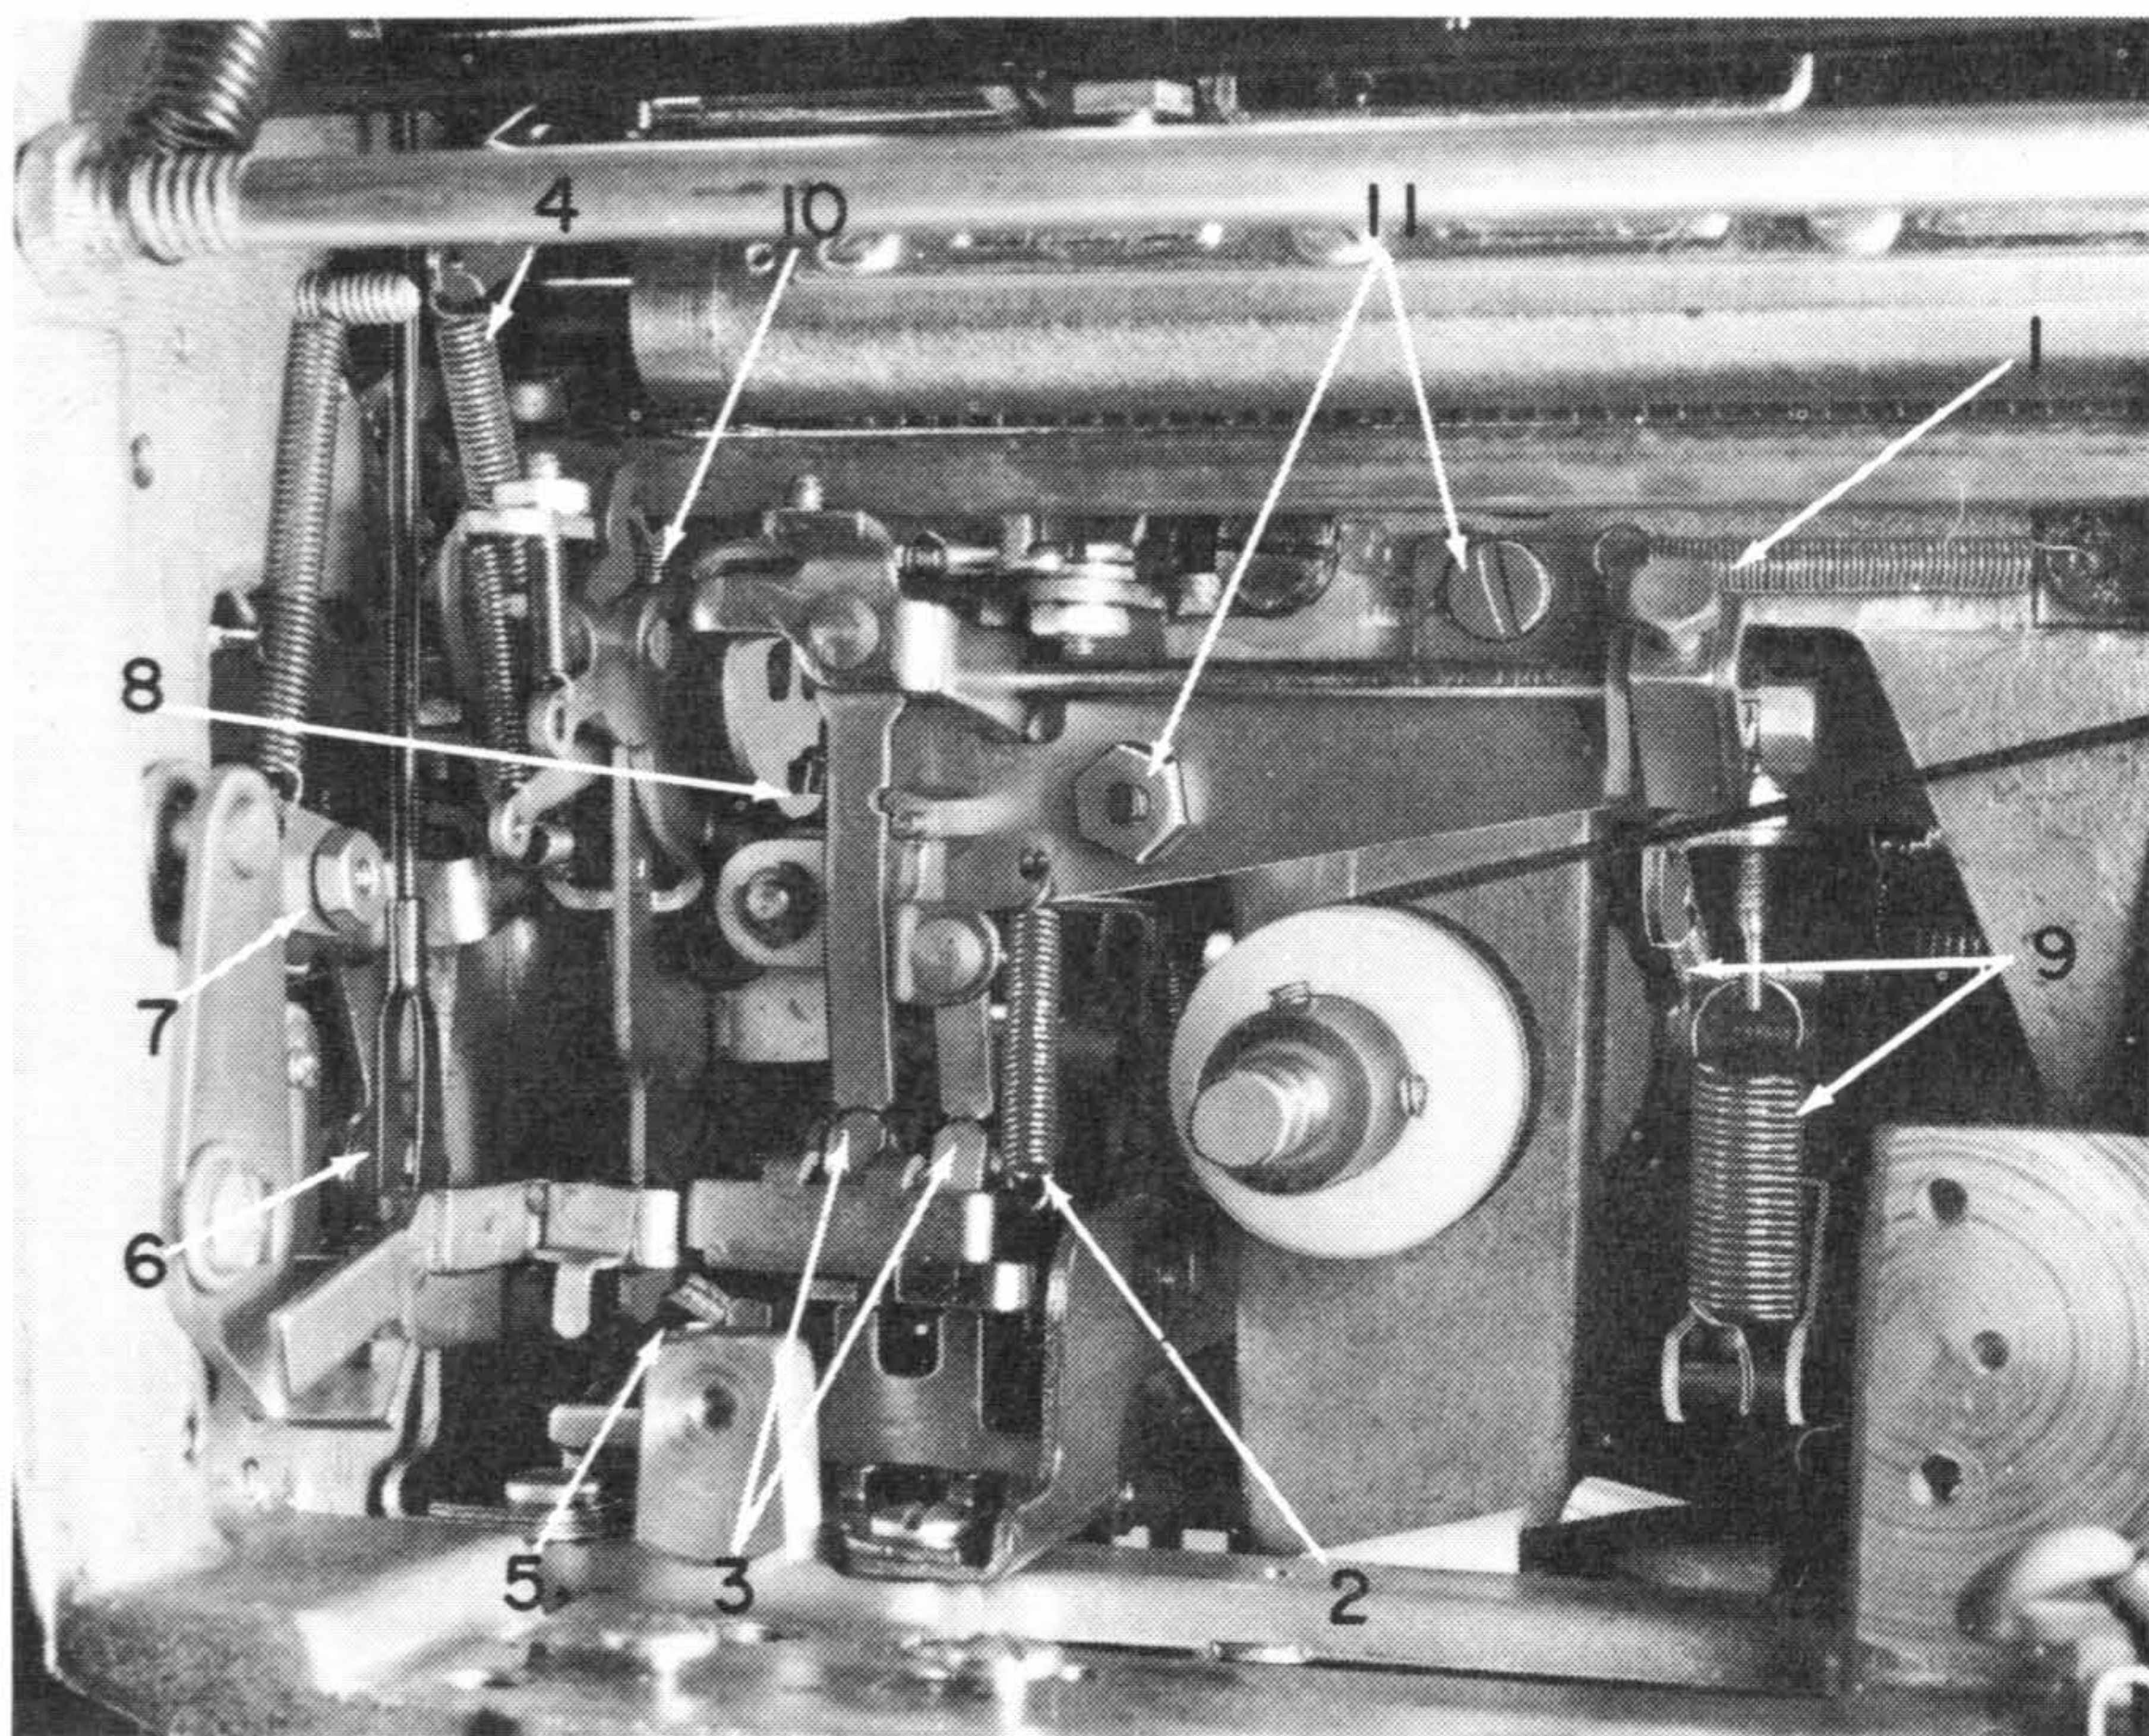

Figure 48. Operational Latch Bracket Removal
5. Disconnect the backspace-rack spring (#1, Figure 48).
6. Disconnect the cam-follower spring (#2, Figure 48).
7. Disconnect the spacebar and tab-latch springs (#3, Figure 48).
9. Disconnect the detent spring (#4, Figure 48).
10. Disconnect the carrier-return latch spring (#5, Figure 48).
11. Remove the index-selection link (#6, Figure 48).
12. Remove the carrier-return eccentric by removing the eccentric nut (#7, Figure 48).
13. Remove the escapement link (#8, Figure 48).
14. Disconnect the carrier-return actuating spring and carrier-return actuating-arm spring (#9, Figure 48).
15. Remove the escapement-torque-bar restoring spring (#10, Figure 48).
16. Remove the two mounting screws (the left one is not visible) and one nut (#11, Figure 48).